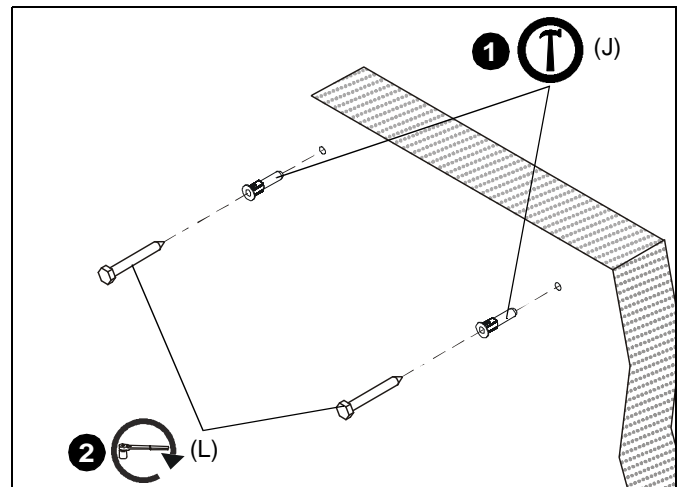

Figure 20
1. Install one UX10 x 60 anchor (J) into each pilot hole using a hammer, making sure that the anchor is flush with the wall. (See Figure 20)
2. Use one 5/16" x 2-1/2" lag bolt (L) through product into each anchor in wall.